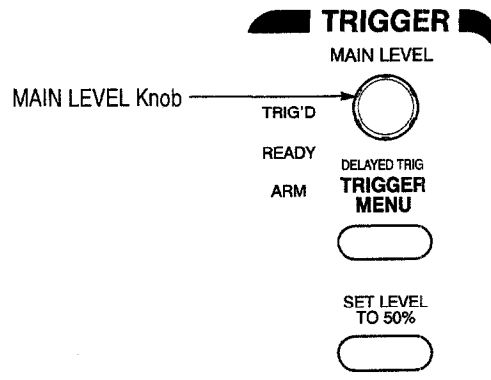

Figure 2-7: TRIGGER Controls
1. To create an unstable display, slowly turn the trigger **MAIN LEVEL** knob (see Figure 2-7) first one direction, and then the other. Observe what happens when you move the trigger level above the highest part of the waveform. Leave the trigger level in that untriggered state.